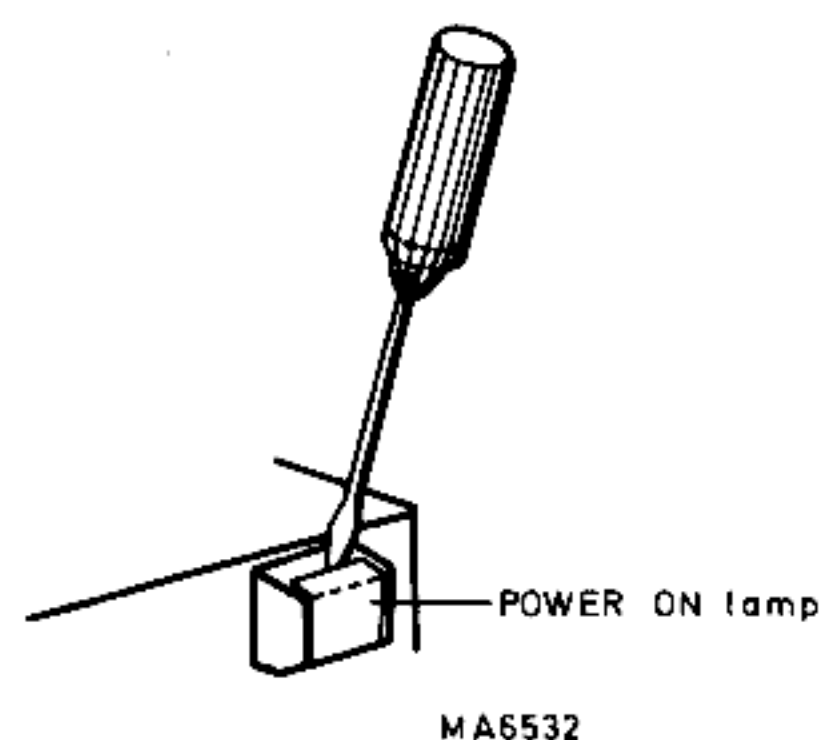

Fig. VIII-2. Removing POWER ON switch
- Remove the transparent cap from the button by inserting a screwdriver as shown in Fig. VIII-2 and gently twisting it.